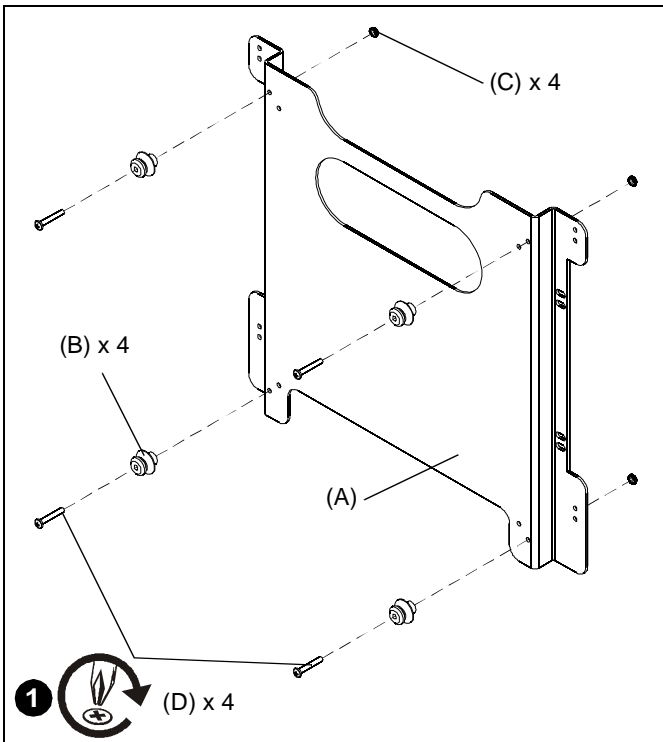

Figure 1
1. Attach mounting buttons (B) to interface bracket (A) using four 10-24 x 1-1/4" Phillips head cap screws (D) and four 10-24 nylon locknuts (C). (See Figure 1)